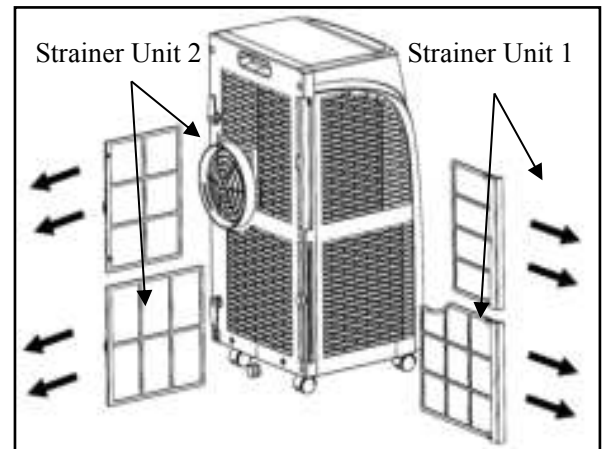

Fig.15
- 1) Pull out strainers in the direction as shown in Fig.15.
- 3) Install strainers to the original position in the direction as shown in Fig.15.